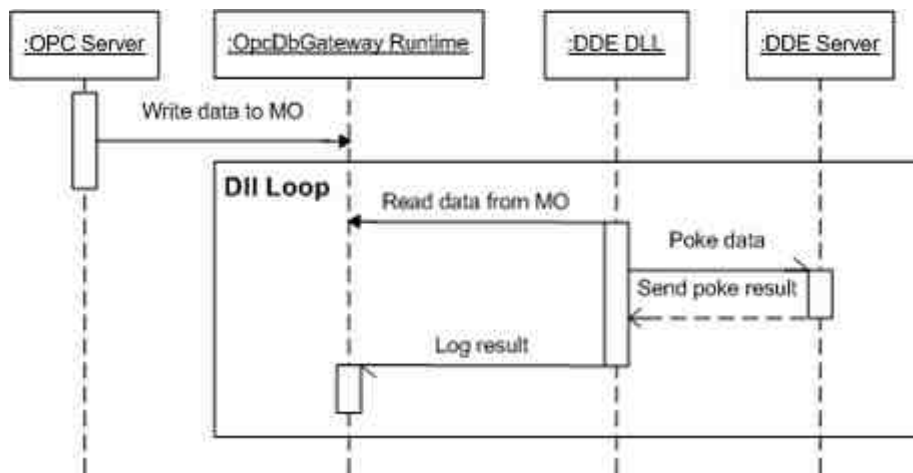

Figure 1: Data transfer MO ->DDE server
- reading of values for a defined set of OPC items from address space of the Internal OPC server (or other data sources) of the container application (OpcDbGateway or SAEAUT UNIVERSAL OPC Server) to memory operands (MO) and writing them to the DDE items on a DDE server (Figure 1). MO's are the source and DDE items destination in this case. DDE dll provides watching of changes in MO's within a loop and changed values are transferred (poked) to the DDE server. Information about changed values can be written to log file if required.